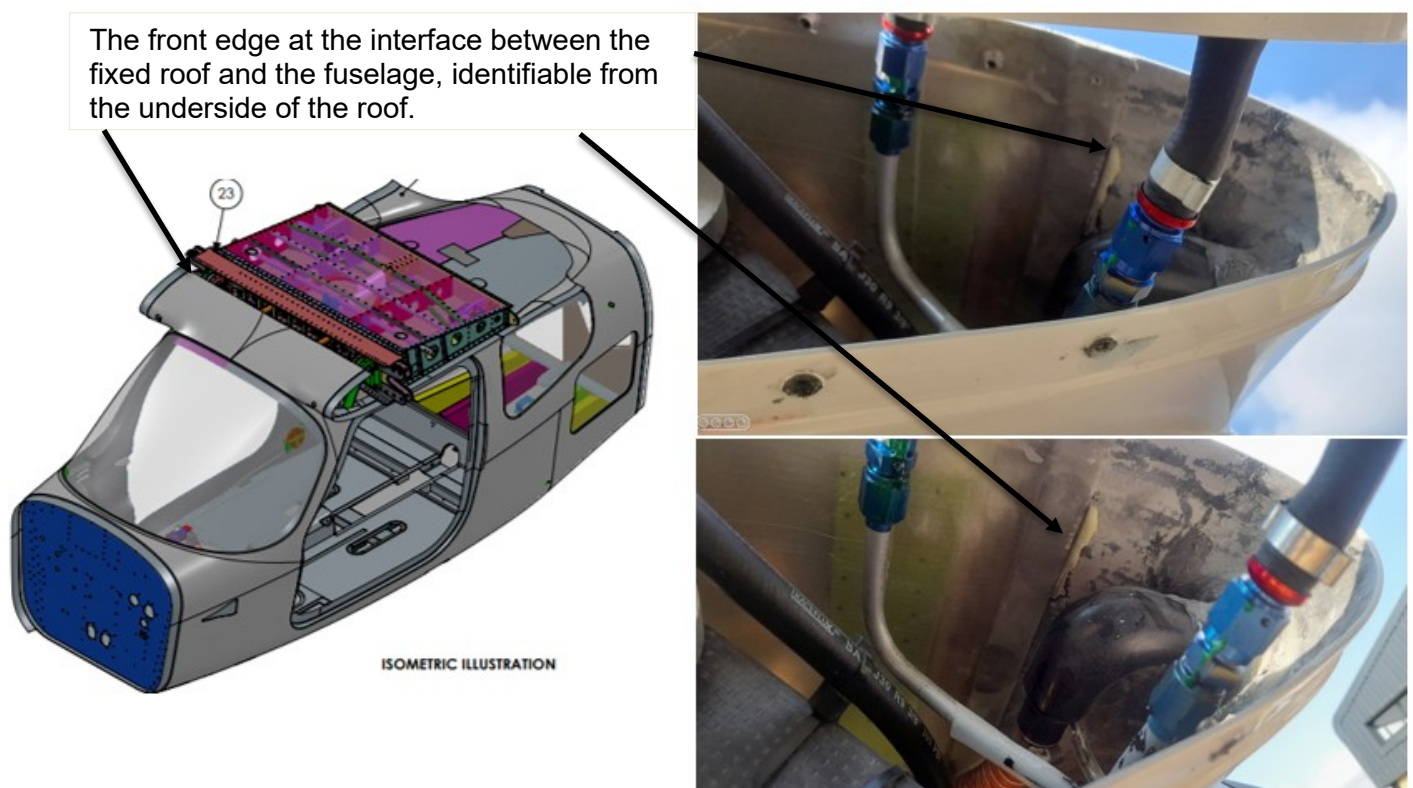

Figure 1: Locate the bonding line from underneath.
- Step 3: Locate the bonding line of the fixed roof and the front part of the fuselage roof as shown in Figure 1. Locate it from underneath.